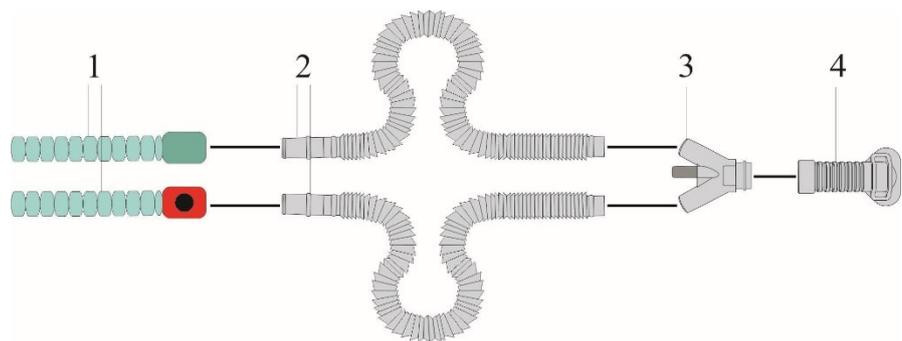

Fig. 110: Connecting an EasyFlow NCPAP
2. Disconnect the two decoupling tubes from each other and create an arc (see Fig. 110).